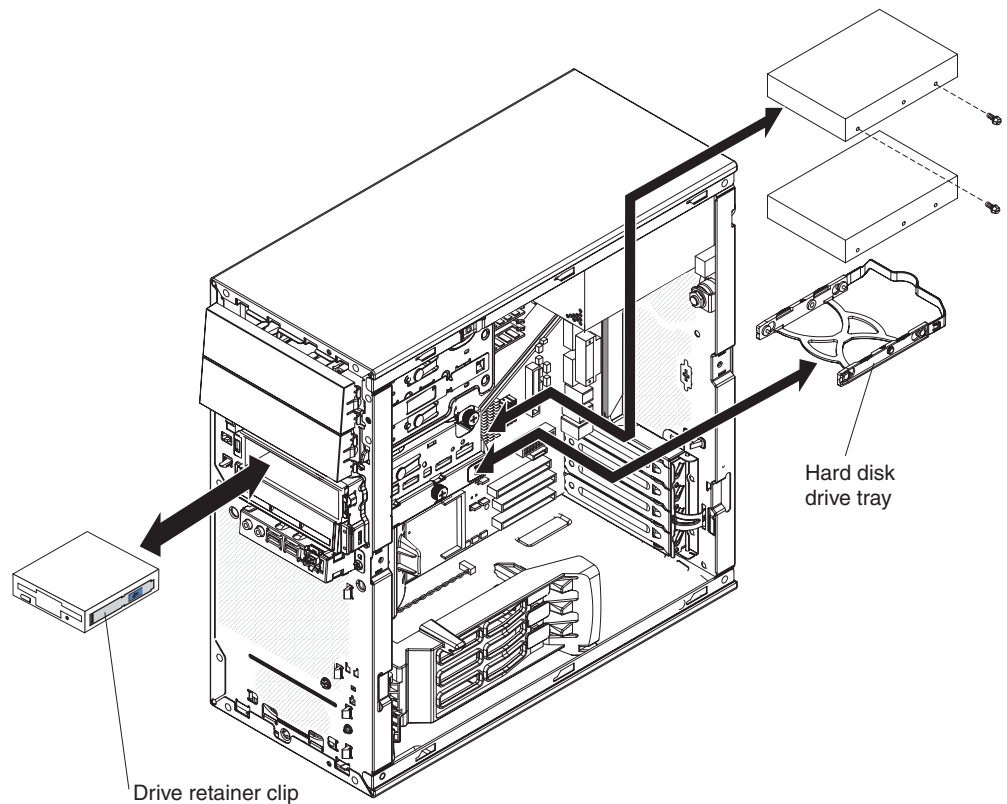

Figure 34. Removing a drive from bay 3 or 4
7. To remove the drive, use one of the following procedures (see Figure 34):